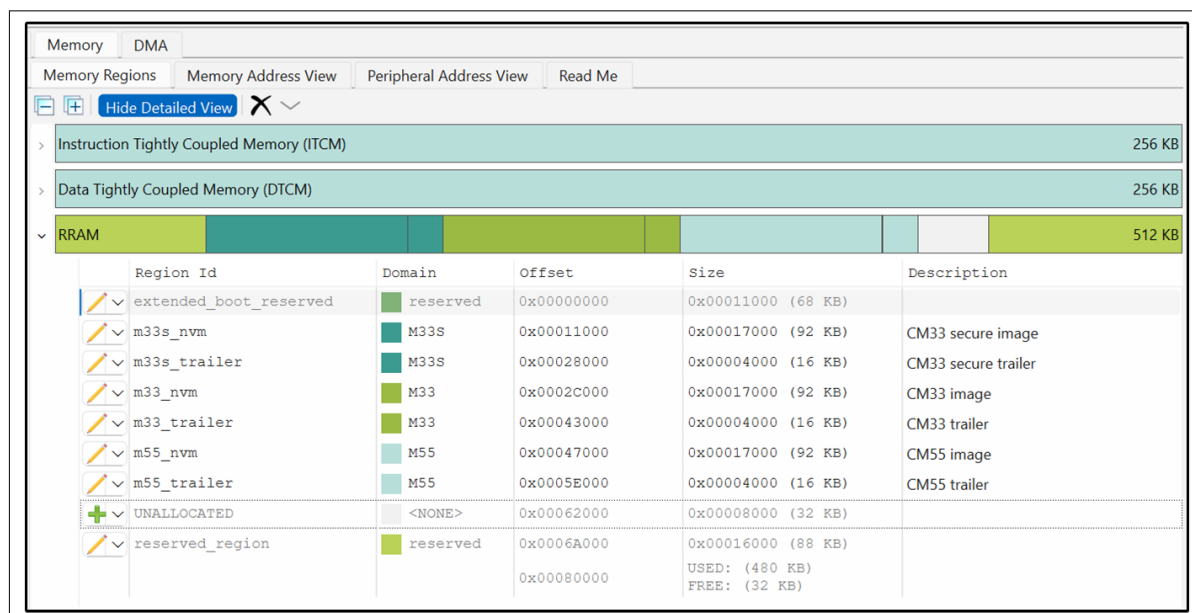

Figure 17 Final RRAM memory layout
- For the CM33 non-secure and CM55 projects, we shall create the corresponding memory regions with offsets and region sizes in the RRAM section as shown in Figure 17